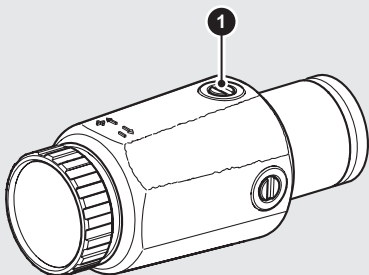

Fig. 4 Centering
Additionally, on the 3X-P it is possible to adjust the diopter setting by rotating the diopter ring (4) as shown in Fig. 4.